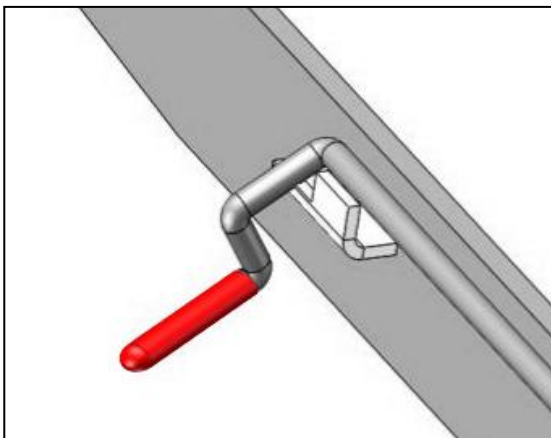
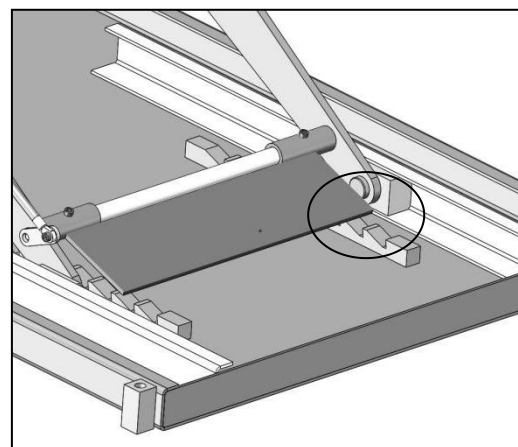

Fig.22
Fig.23
4. **To lower the lift:** Raise the lift for several seconds. Rotate the safety lock handle downward as the state of **Fig.22**. After the safety device is released (**see Fig.23**), Press the "RELEASE" of the pneumatic pump pedal, the lift would be lowered.